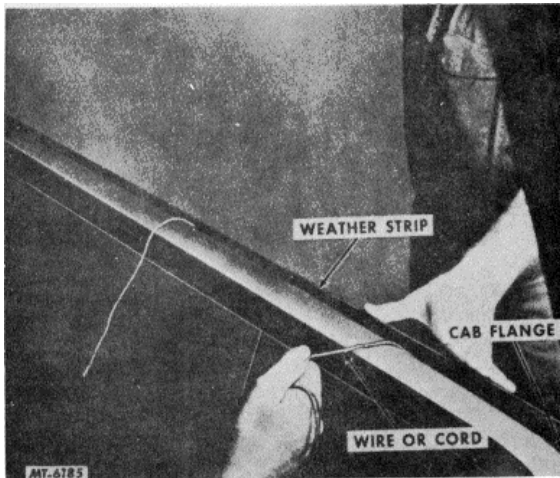

Fig. 27
5. Carefully draw the cord from the flange channel in the weatherseal; bring the lip on the channel over the cab flange. Draw one side of the cord out of the weatherseal until the cord has traveled completely around to the top center of the glass. It is not important which side of the weatherseal is drawn over the cab flange first, Fig. 27.